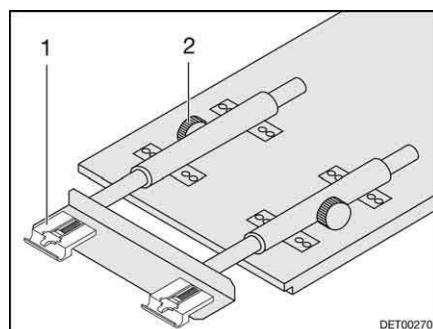

Fig. 25 Extend suspension table
- Undo the knurled screws (Fig. 25,2).
- Lift the table-top slightly and pull it out as far as possible. The table extension (Fig. 25,1) is fully extended.
- Lift the table-top slightly and push it back as far as possible. The table extension (Fig. 25,1) is fully retracted.